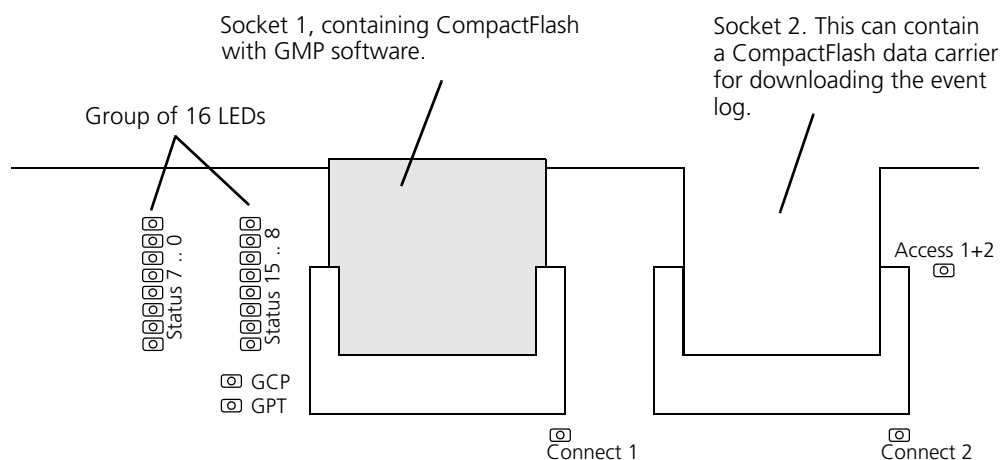

Figure 12-1. Positions of diagnostic LEDs on control board
2. Identify the diagnostic LEDs on the control board. These are positioned as shown in Figure 12-1.